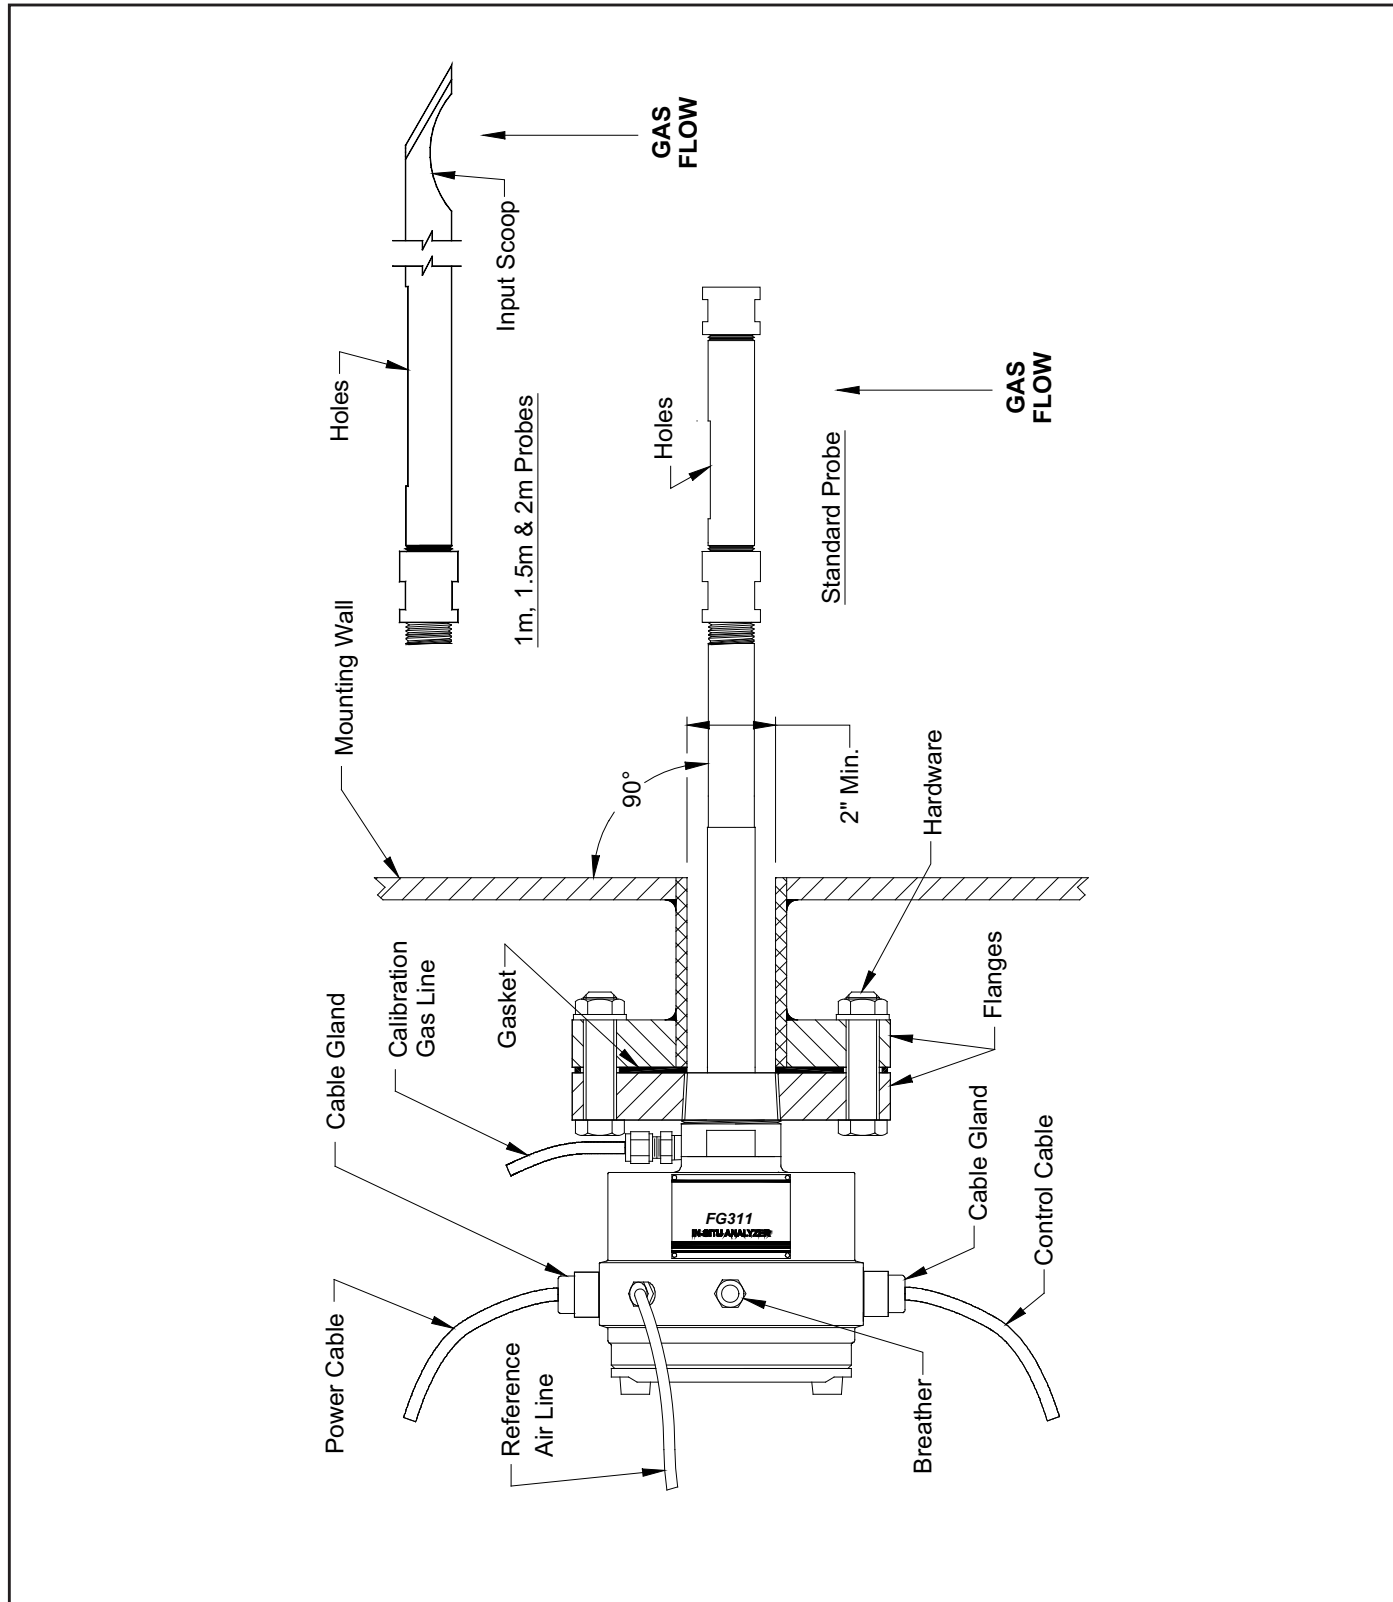

Figure 5: Flange Mounting the FGA 311
Environmental and installation factors should already have been discussed with a GE applications engineer or field sales person before the FGA 311 arrives. The analyzer must be installed either in a furnace or boiler wall or in a flue duct. Ideally, the end of the probe assembly should extend approximately 1 ft (30.5 cm) into the flue gas stream. Also, the analyzer should be positioned so that the probe holes are on the downstream side of the probe (see *Figure 5 on page 11*).
Note: For installations where the FGA 311 may be exposed to water or other fluids, install the unit with the breather (see Figure 5 on page 11) facing downward.
2. Weld a mating flange onto the end of the pipe, as shown in Figure 5 on page 11.
IMPORTANT: *The probe holes must be positioned on the downstream side of the probe. See Figure 5 on page 11 for the proper orientation.*